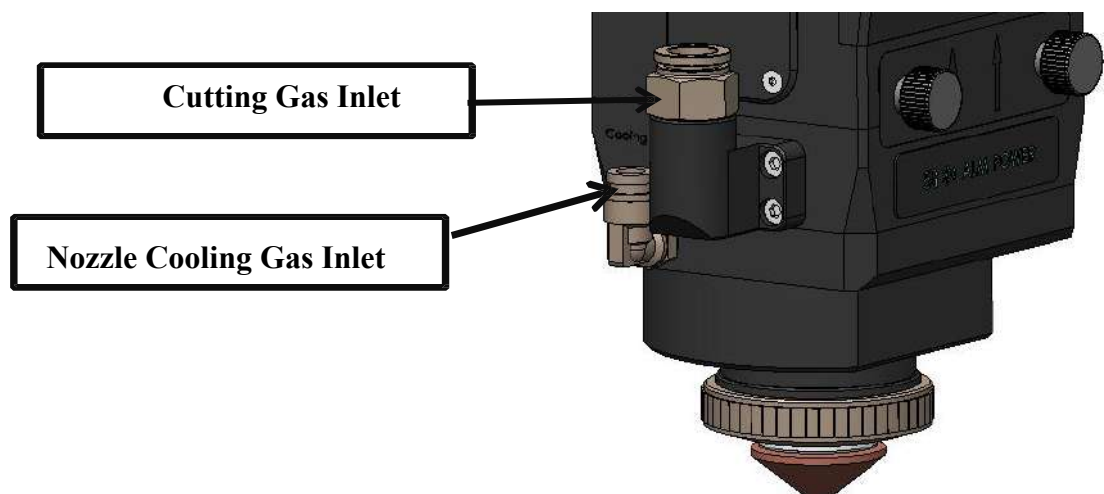

Figure 1.1
8. Cutting gas inlet:  $\phi 10$  mm gas pipe connector for inputting cutting gas, as shown in Figure 1.1.
9. Cooling gas inlet:  $\phi 6$  mm gas connector for cooling the nozzles and ceramic ring during cutting, as shown in Figure 1.1.